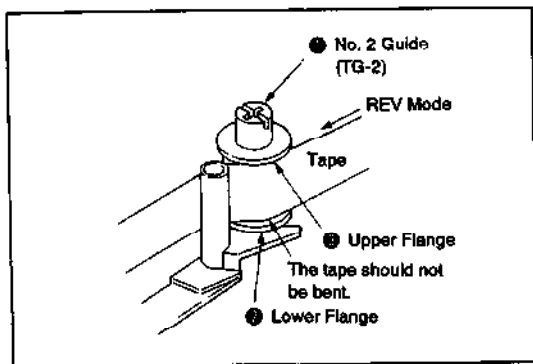

Fig. 4-8.
(See Figs. 4-8. and 4-9.)
- 2) Confirm that the tape is not bent at the lower flange ② of the No. 2 guide (TG-2) ① (See Fig. 4-8). If it is, turn the upper flange ③ of the No. 2 guide (TG-2) ① clockwise with a screwdriver, lowering it until the tape is straightened.